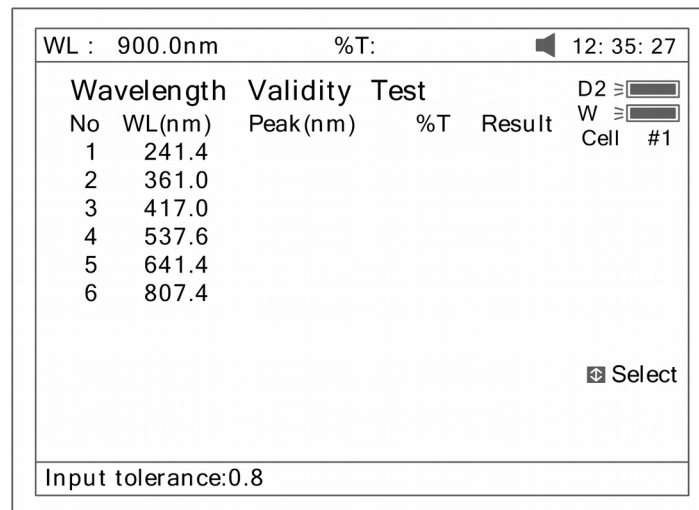

Fig 98
3. Press **(F3)** to set tolerance (Fig 98). Input the value by pressing the numeric keypad.